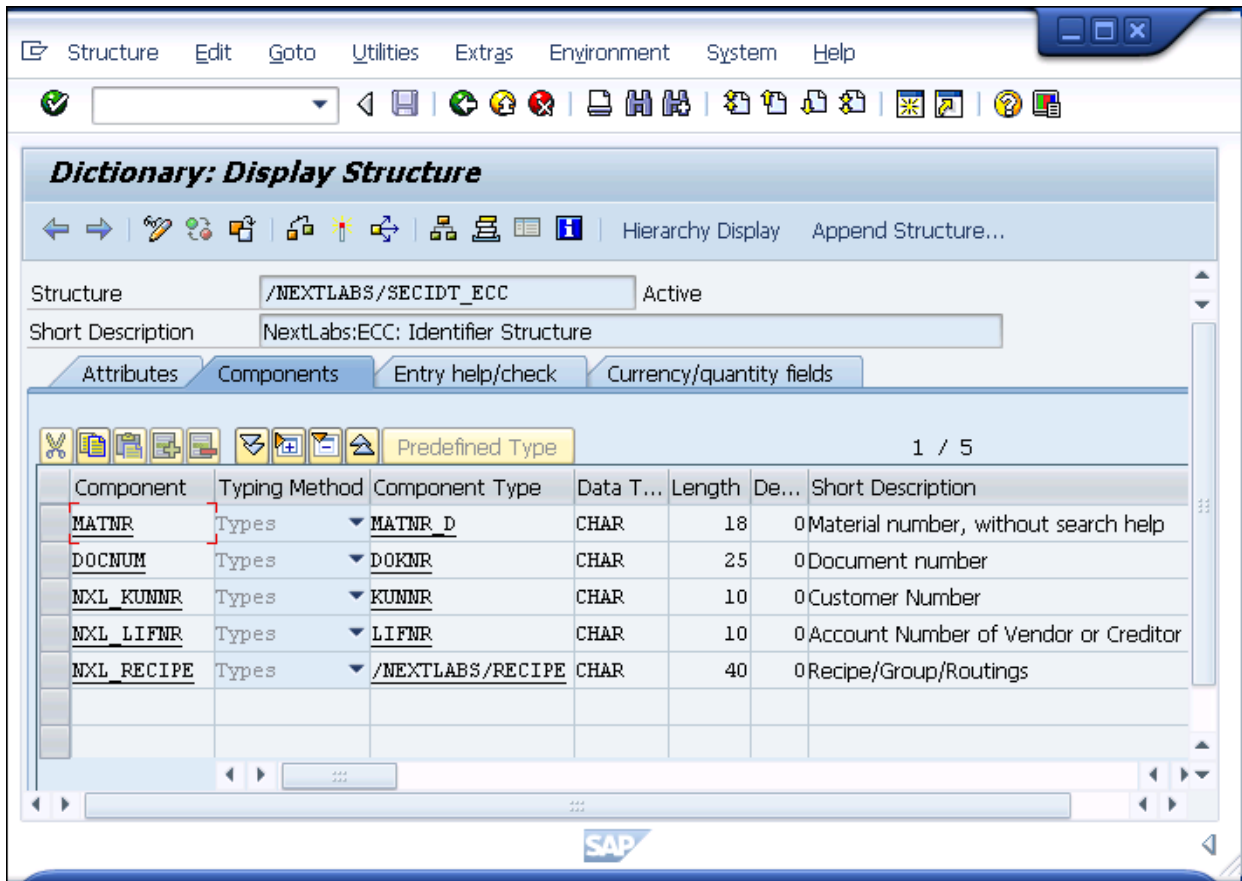
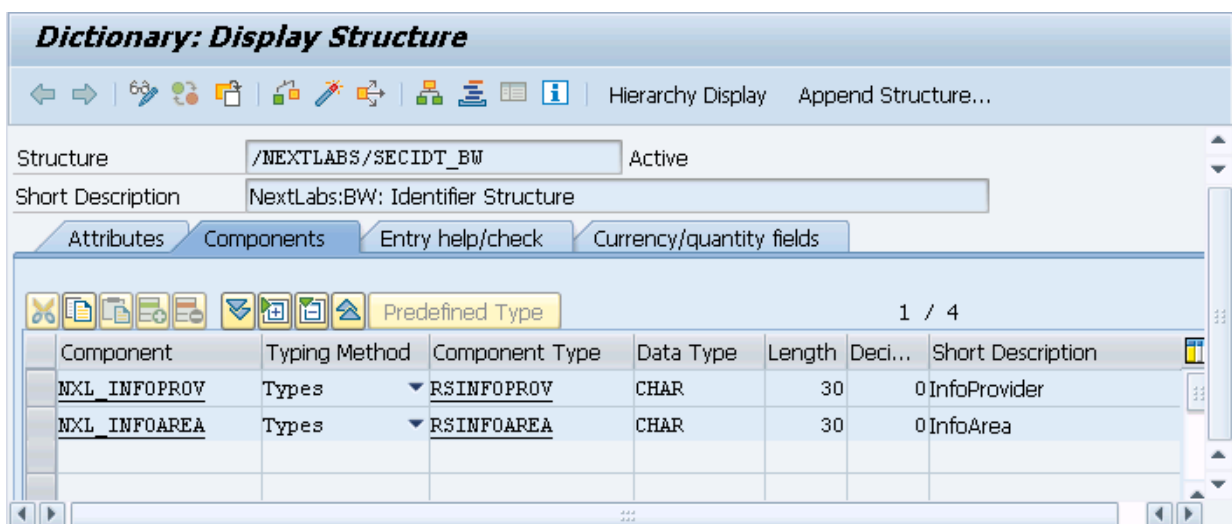

Figure 8-2: Default identifiers in /NEXTLABS/SECIDT\_ECC
Figure 8-3: Default identifiers in /NEXTLABS/SECIDT\_BW
- 2 In the **Data Type** field, enter the structure name /NEXTLABS/SECIDT\_ECC, /NEXTLABS/ SECIDT\_CFX, /NEXTLABS/SECIDT\_BW, or /NXLS4H/SECIDT\_S4HANA, and click **Display**. The identifiers that are pre-configured display. Figure 8-2 and Figure 8-3 show examples of default identifiers in SECIDT\_ECC and SECIDT\_BW.